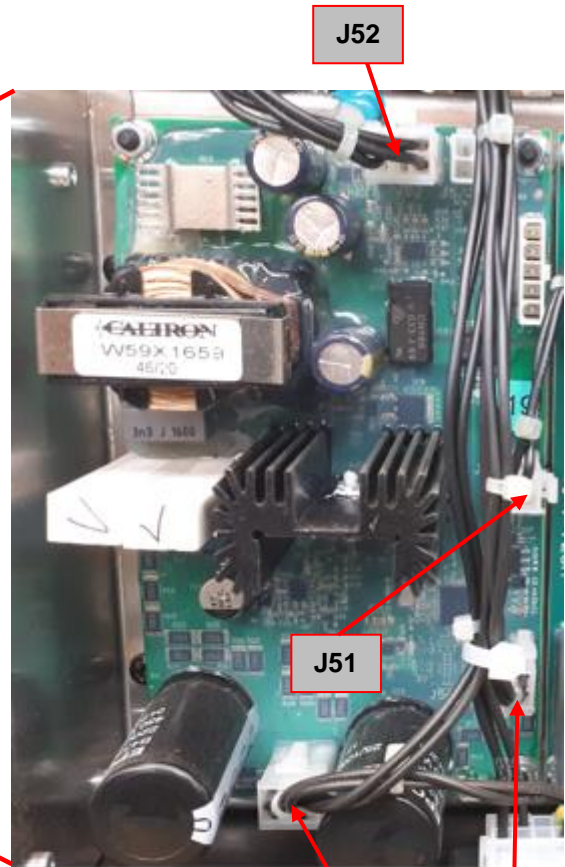

Figure 30
4. Remove the 4 connectors **J50, J51, J52, J53**. See **Figure 30**.